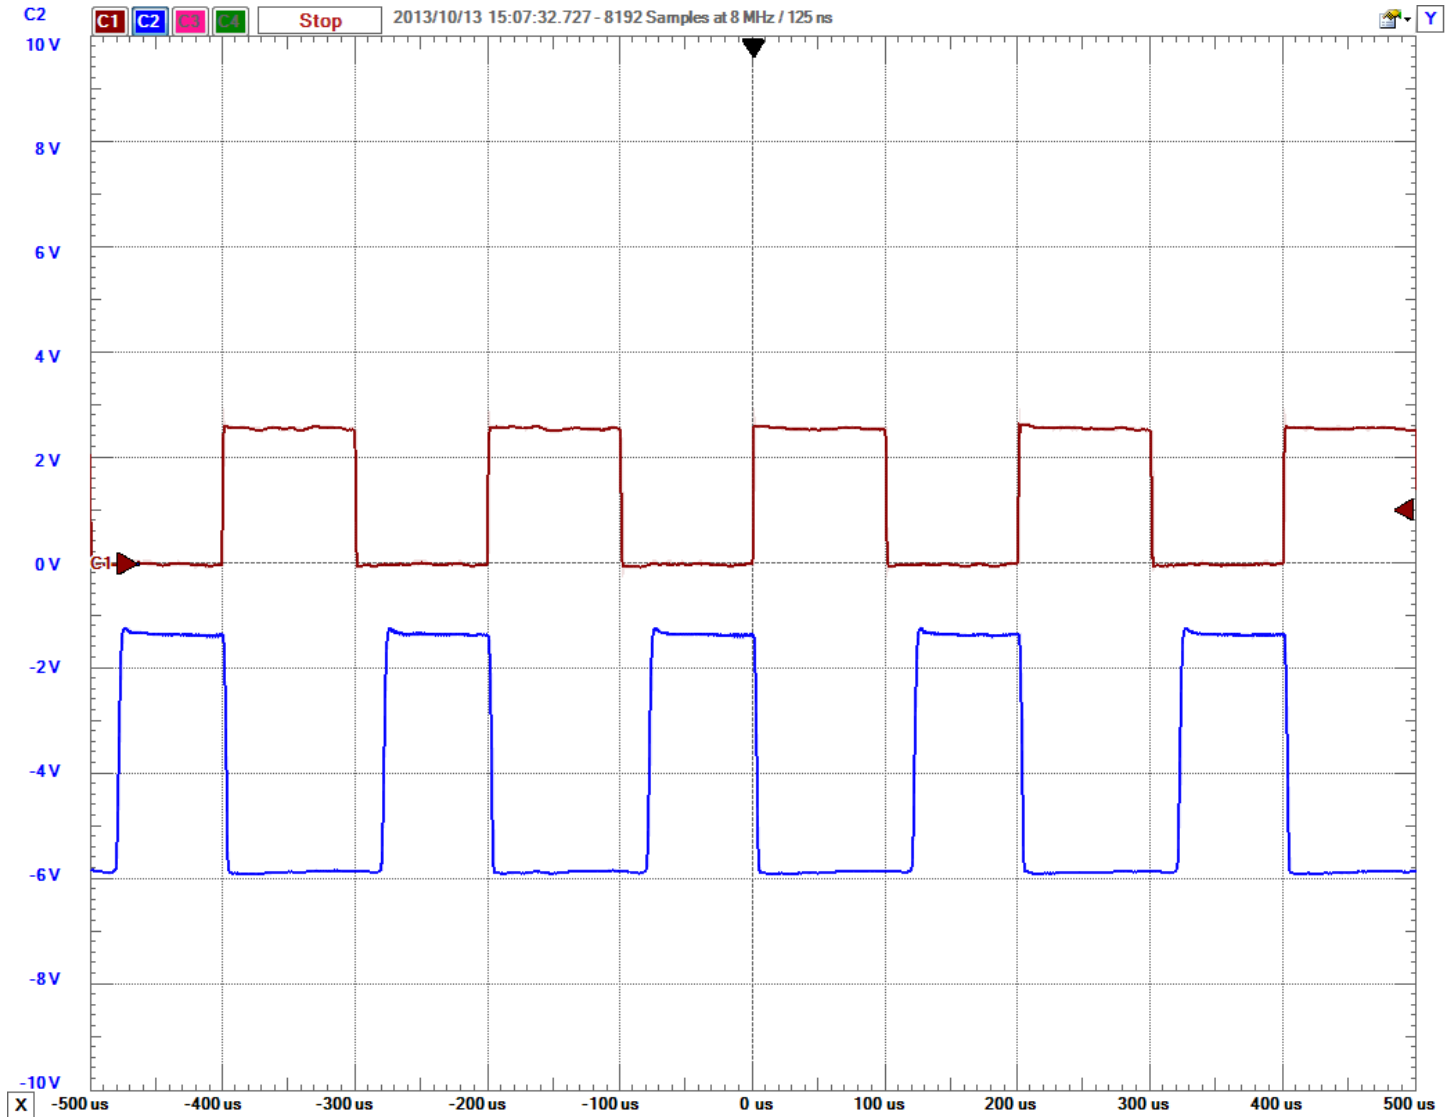

Figure 8. Transmitter (red) and receiver (blue) signal.
7) Set the Oscilloscope to measure 1 Volt/Div for both channels The Time/div should be set initially to 100 μsec . Turn on the power to the positive (V_{CC}) and negative ($-V_{CC}$) voltage rails. Start the oscilloscope, and you should see something like that in Figure 8. Note that at this point you may need to modify the transmitter and receiver so they are pointing more accurately. You may also need to shield your system from ambient light by putting a few pieces of paper over the top of it. The LED is transmitting when the voltage across it is high, and the phototransistor is receiving when the voltage across the output/load resistor is low. Capture your picture and put it in your memo and you are done!